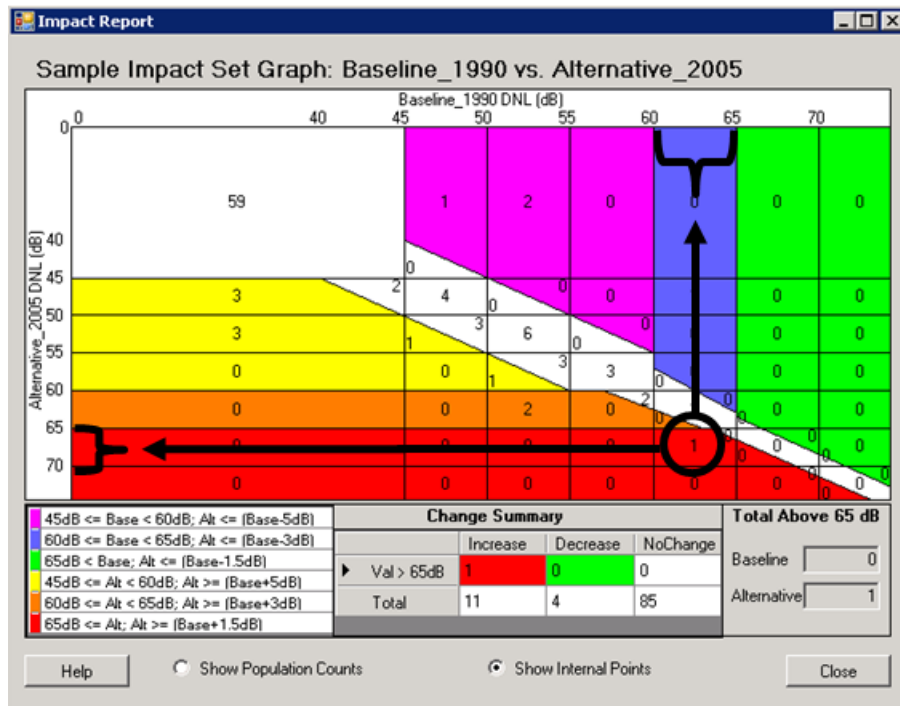

Figure 8-7 Impact Set Graph
3. Right-click the *Impact Set*, select *Impact Set Reports, Impact Set Graph*. A new dialog box will open (Figure 8-7).
5. The impact set graph (Figure 8-7) illustrates either the population or number of receptors that fall into each of the categories described in Section 8.3.1.
3. Example (Figure 8-7):